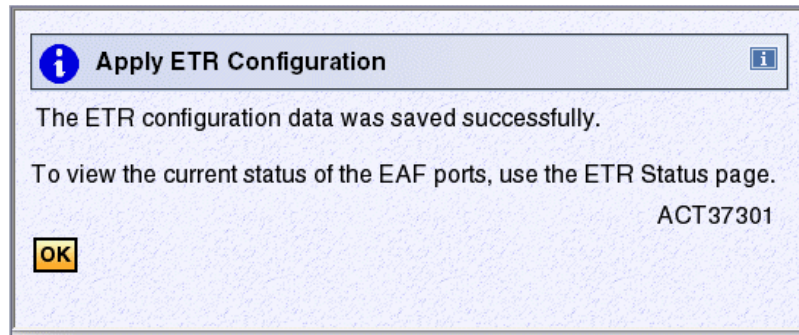

Figure 11-11 Message ACT37301 - ETR Configuration tab - Enable ETR Ports success (SCZP201)
4. Click **Apply**. This displays the Apply ETR Configuration, message ACT37301, indicating that the change was successful (Figure 11-11).